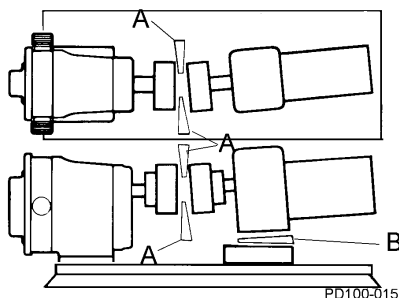

Figure 20 - Check Angular Alignment
1. Using feeler gauges or taper gauges (Figure 20, items A and B), check the alignment at four points every 90 degrees around the coupling; **adjust to equal dimension at all points.**